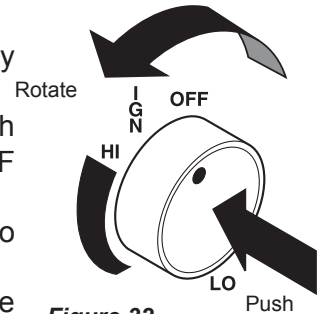

Figure 32 - IGN Position
6. From OFF position, push in gas control knob slightly and turn counterclockwise to the IGN position. Figure 32. Push in and hold control knob for 5 seconds.